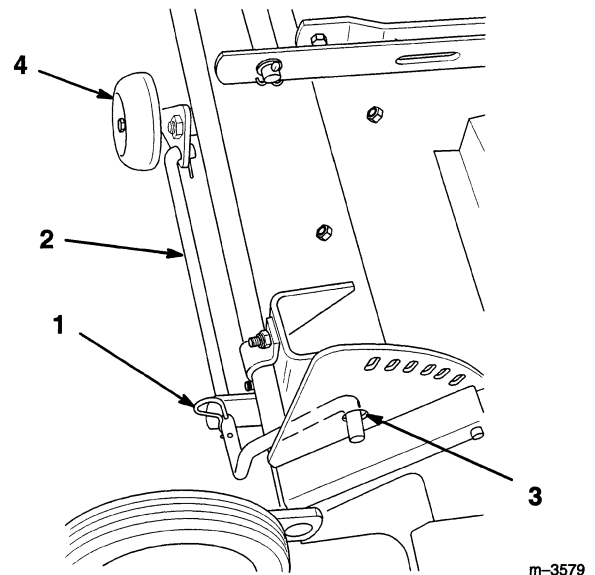

Figure 4
- A. Removing the hairpin cotter from the wheel rod (Fig. 4).
- C. Pull the rod toward the outside of the mower, insert the end of the rod into the hole in the height-of-cut plate, and install the hairpin cotter into the second hole of the wheel rod (Fig. 4).